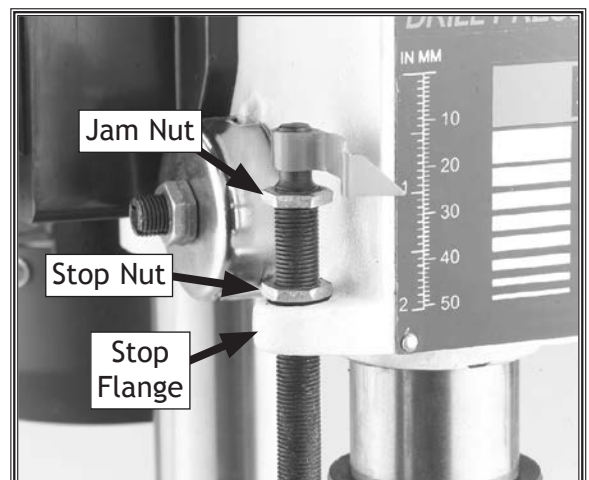

Figure 32. Location of jam and stop nuts.
4. Loosen jam nut on depth stop rod (see Figure 32).
6. With spindle at desired depth, adjust stop nut until it contacts stop flange (see Figure 32), then release spindle handles.